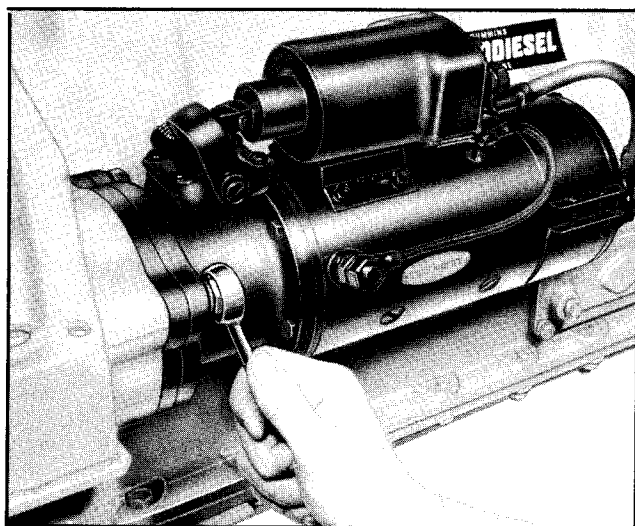

Fig. 4-2. Mounting starter
3. Mount cranking motor to flywheel housing with three capscrews. Fig. 4-2.